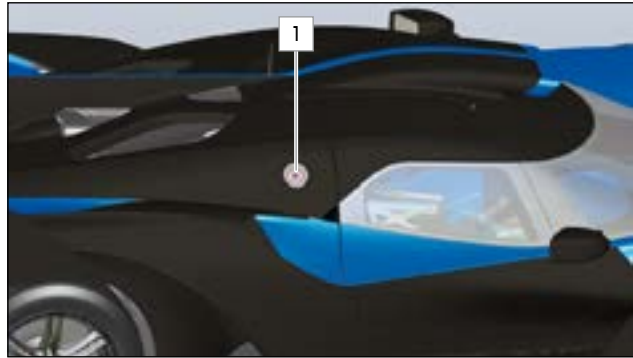

FIG.88 ON THE PASSENGER SIDE: FUELLING VALVE
- ▶ As soon as you have come to a standstill, the filler nozzle is placed on the fuelling valve 1 (» Fig.88) on the passenger side of the car.